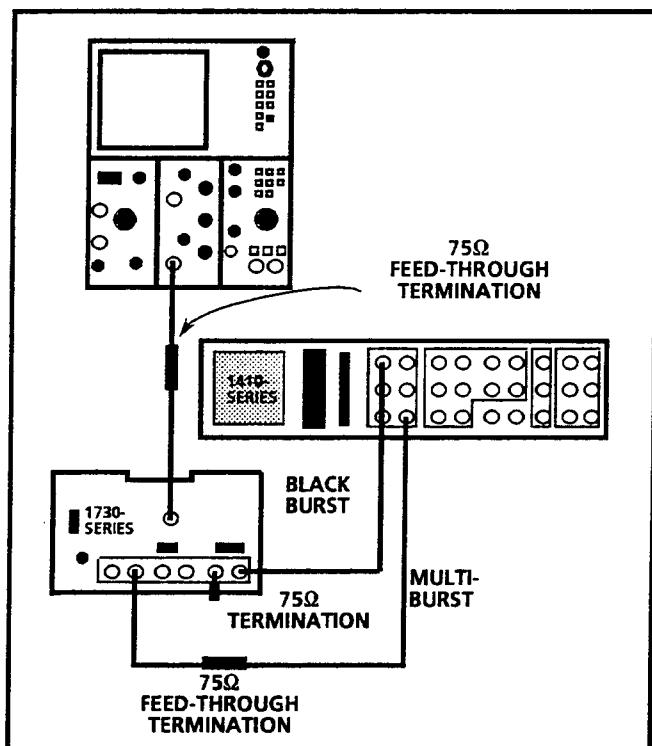

Fig. 5-18. Connecting multiburst signal to CH-A and CH-B for high-frequency compensation.
- a. Connect the multiburst signal through an in-line 75Ω termination to the CH-A INPUT. Connect the black burst signal to the EXT REF and terminate. Connect a 75Ω cable from the 1730-Series PIX MON OUT to the test oscilloscope vertical input (30 MHz vertical plug in). See Fig. 5-18.